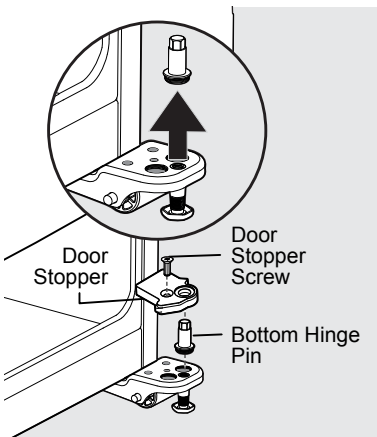

Figure 4
10. Remove the screw from the door stopper with a Phillips screwdriver (see Figure 4).
11. Unscrew the bottom hinge pin from the right hand position using an adjustable wrench (see Figure 4).